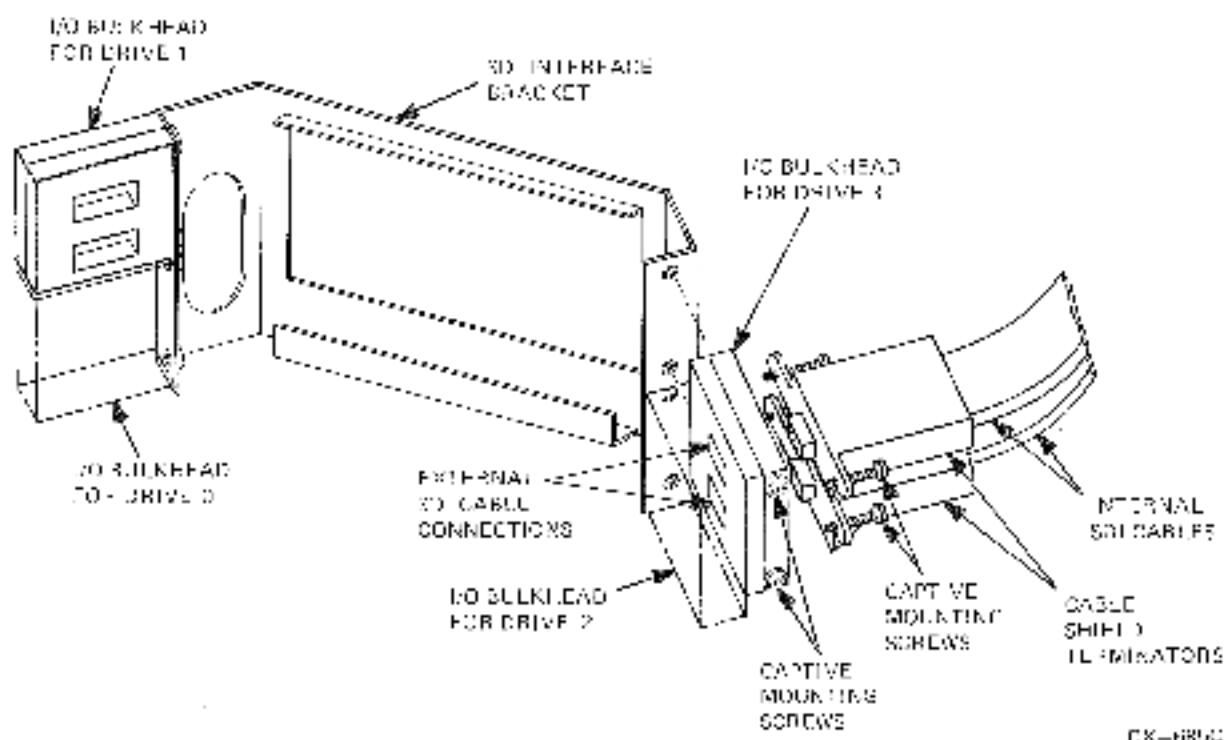

Figure 5-16 I/O Bulkhead Mounting
Locate the I/O bulkhead shipped with the add-on disk drive (attached to the end of the SDI cable). Based on drive position, each I/O bulkhead must be mounted in a designated location on the SDI interface bracket. Using the two captive screws, mount the I/O bulkhead to the SDI interface bracket at the rear base of the drive cabinet as shown in Figure 5-16.
External SDI cables from the central processing unit (CPU) or controller cabinet are connected to the *inside* of the I/O bulkhead (opposite side of the SDI interface bracket from the internal SDI cables). Refer to Figure 5-16.
1. Install the bottom end of the SDI cable (end with I/O bulkhead) onto the SDI interface bracket at the base of the cabinet. Using the two captive screws, mount the I/O bulkhead in the internal SDI cable position designated for Drive 1 (Figure 5-16). Make sure drive port cable A plugs into the A connector and the port cable B plugs into the B connector of the I/O bulkhead.
1. Install the bottom end of the SDI cable (end with I/O bulkhead) from the second add-on drive into the SDI interface bracket at the base of the cabinet. Using the two captive screws, mount the I/O bulkhead in the internal SDI cable position designated for Drive 2 (Figure 5-16). Make sure drive port cable A plugs into the A connector and the port cable B plugs into the B connector of the I/O bulkhead.